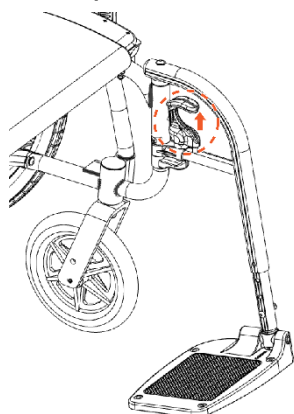

Figure 4.16
1. Pulling the release lever, swing the footrest to the side, and then lift it up. (See Figure 4.16–4.18.)